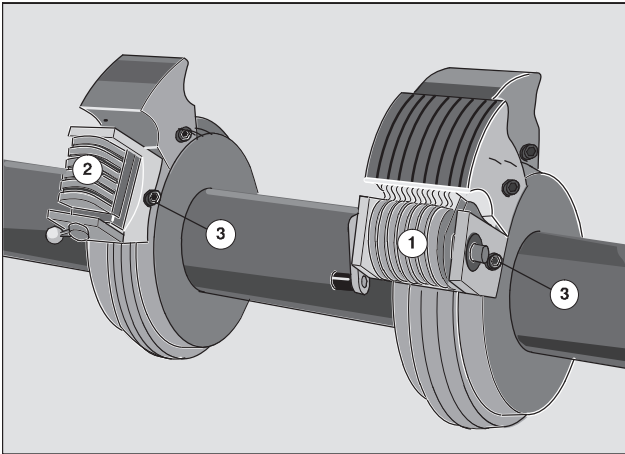

Fig. 8 Mounting the numbering boxes
2. Place the numbering box on the mounting ring (straight numbering box: Fig. 8/1, convex numbering box: Fig. 8/2).
3. Tighten the locking screw (Fig. 8/3) at the numbering box using an Allen key. While tightening the locking screw, you must press the numbering box towards the mounting ring.